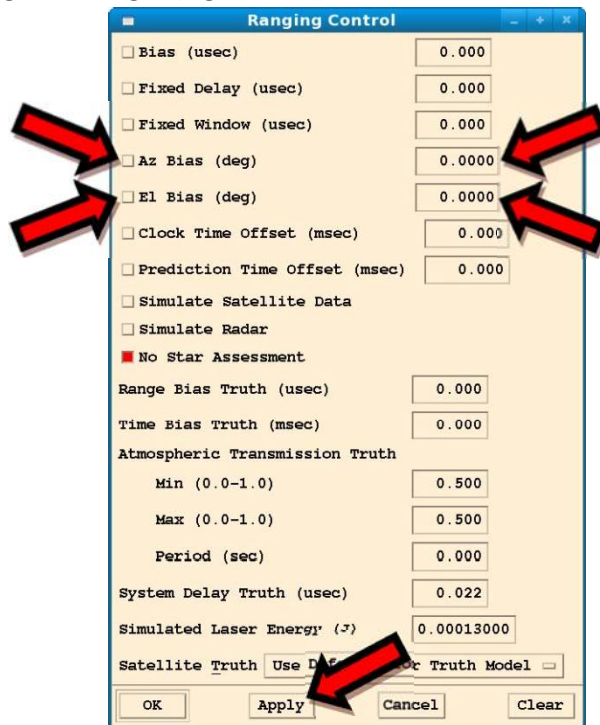

Figure 4-19: Ranging Control Window
- b. **Method 2: Use the Ranging Control window** – Open the window by going to Control => Ranging, selecting the Az and El Bias radio buttons [left], entering the bias value desired [right], and applying the changes (Figure 4-19).